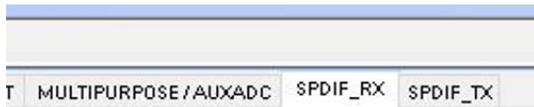

Figure 35. Selecting the SPDIF_RX Tab
- Next, click the **SPDIF_RX** tab (see Figure 35).